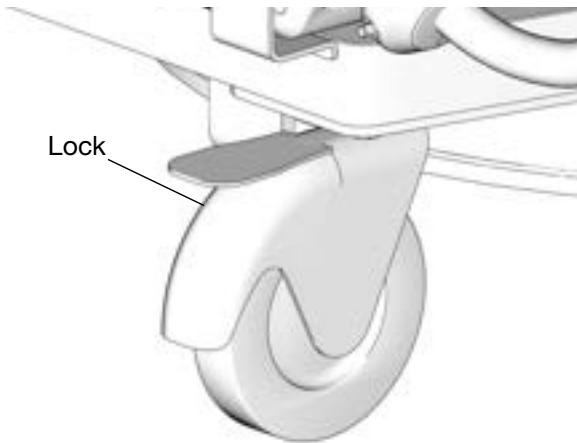

FIG. 36
- Lock wheel casters to hold cart in place during operation (FIG. 36).